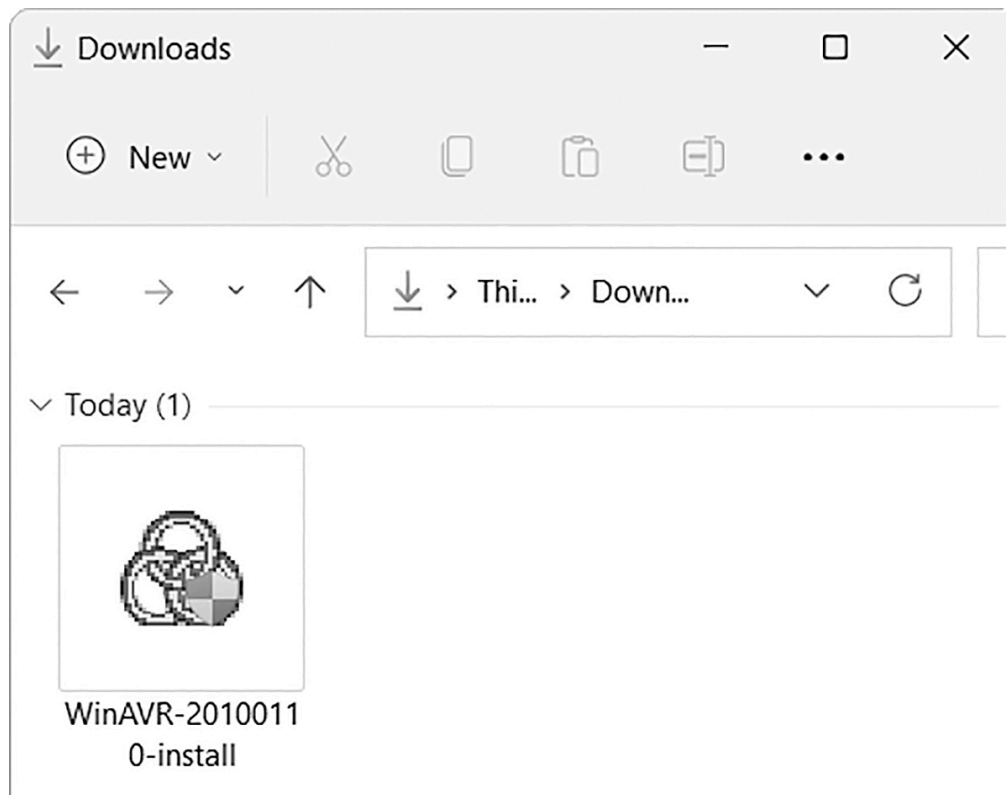

Figure 1-10: The WinAVR package
2. Click the **Download Latest Version** button to start the software download. After a short period of time, the toolchain installer should finish downloading. Open the *Downloads* folder in Explorer, as shown in Figure 1-10, and you should see the WinAVR install file.